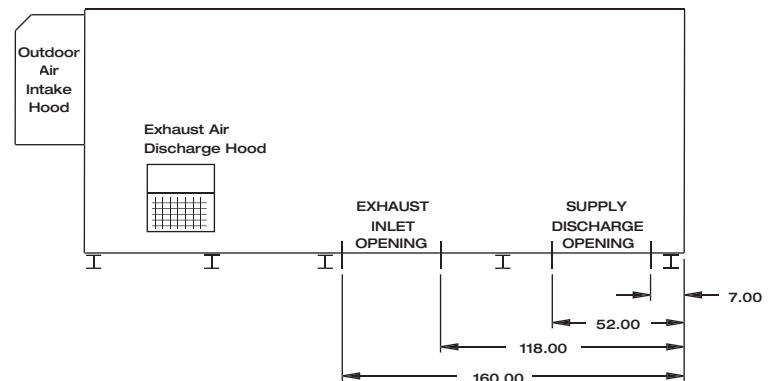

FIGURE 6: Side view of APEX on rails.
- Make sure that rail positioning does not interfere with the supply air discharge opening or the exhaust air intake opening on the APEX unit (see **FIGURE 6**).